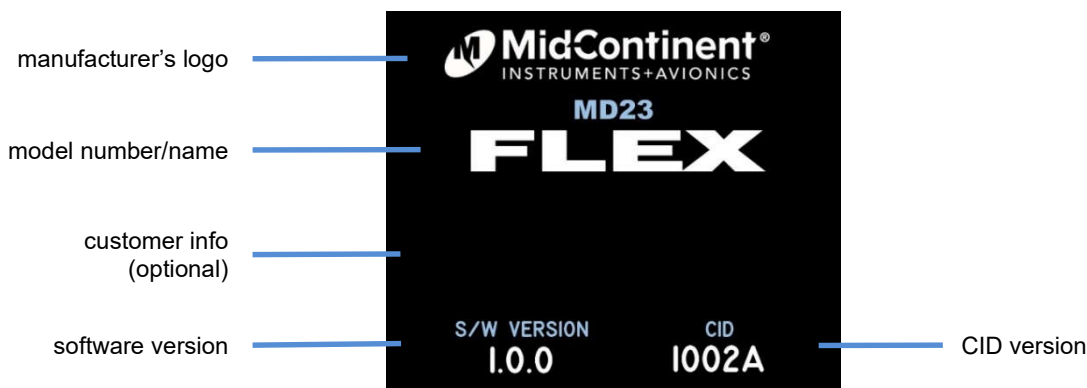

Figure 4.2 Pre-Flight Mode
The introduction screen will be displayed for approximately five (5) seconds and will transition to Flight Mode when complete. (Figure 4.2)